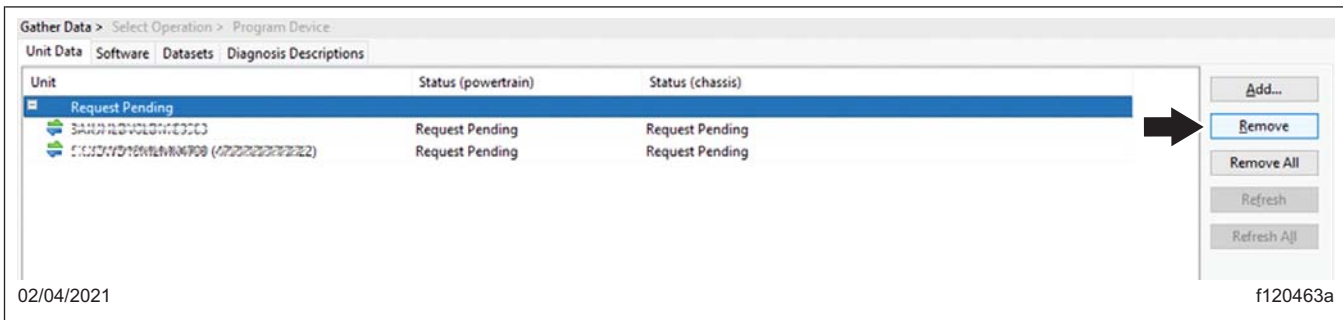

Fig. 4, Removing Pending Requests
- Remove any 'Request Pending' downloads and serial numbers in the main window by selecting the 'Request Pending' list item(s) and then selecting the 'Remove' button on the right-hand side of the window. Do not select 'Remove All;' selecting 'Remove All' deletes all data pending upload. See Fig. 4.